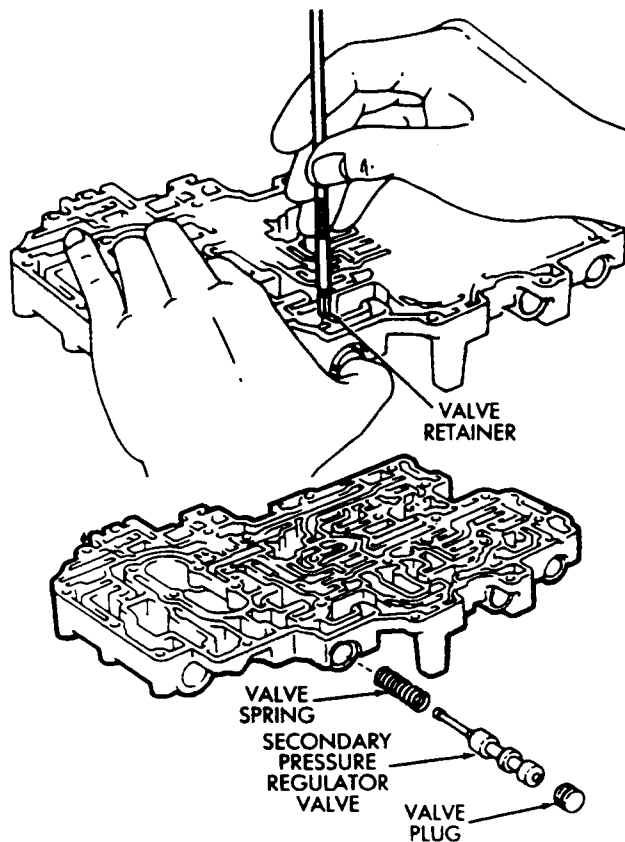

Fig. 10 Removing/Installing Secondary Pressure Regulator Valve
(6) Install secondary regulator valve spring, valve and plug in valve bore. Press plug inward and install retainer (Fig. 10).